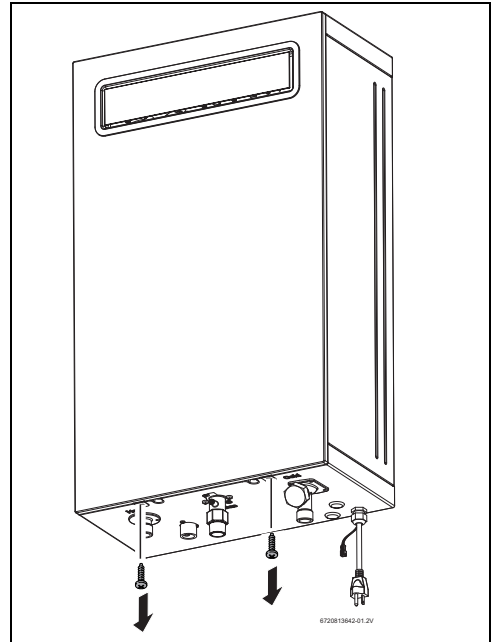

Fig. 3 Loosen two Phillips head screws
- Loosen two Phillips head screws located on bottom of cover, fig. 3.